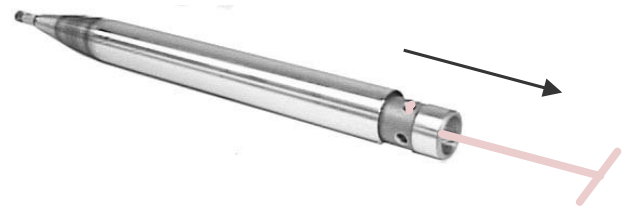

Figure 8-4. Access the Striker with a Long Hook.
4. Remove the Striker (2) from the Body/Anvil (1):
- a. If it is unsafe or impractical to lift the Body/Anvil and Striker, use a long hook to pull the Striker out of the Body/Anvil about six to eight inches as shown in Figure 8-4. Otherwise, perform step b.